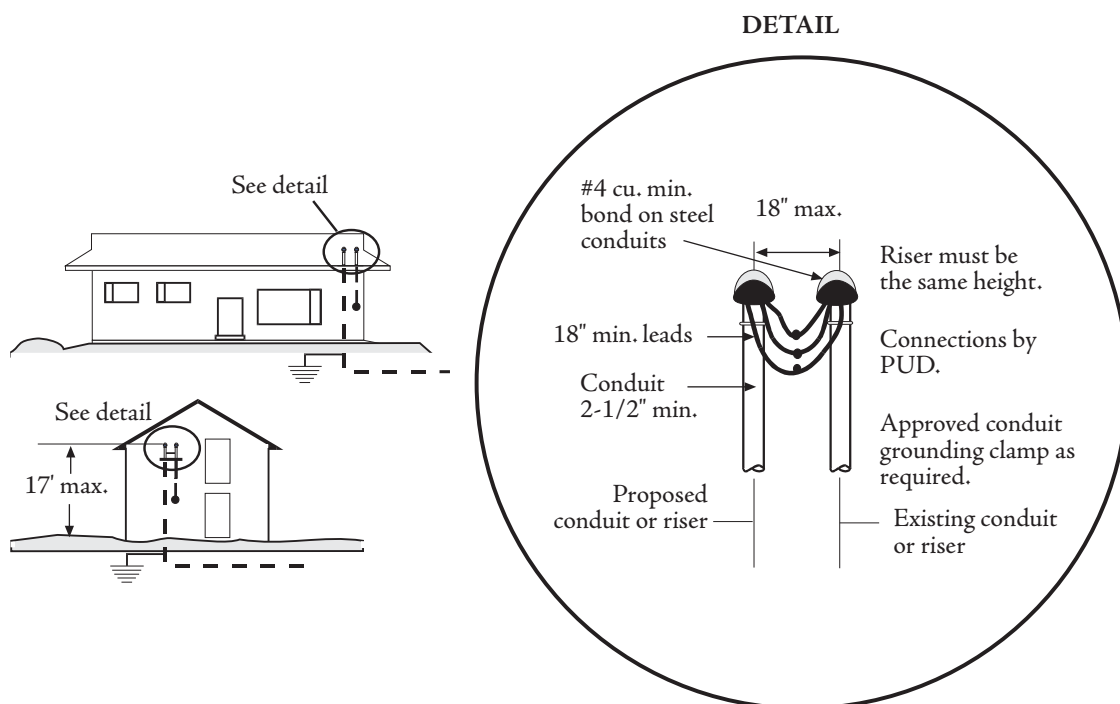

Figure 4-11
- a. An underground riser conduit may be extended up to match the height of the existing overhead mast. This new riser must be within 18 inches of the existing mast. Refer to Figure 4-11.